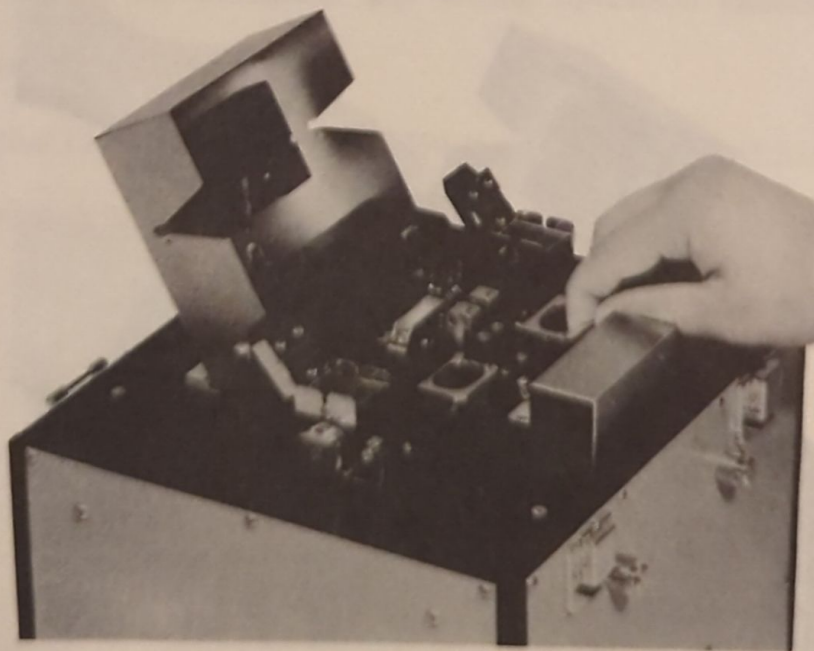

Fig. 15 Opening Clamp
- (4) Pull the handle ⑭ toward you, and open the clamp ⑪. (Refer to Fig. 15)